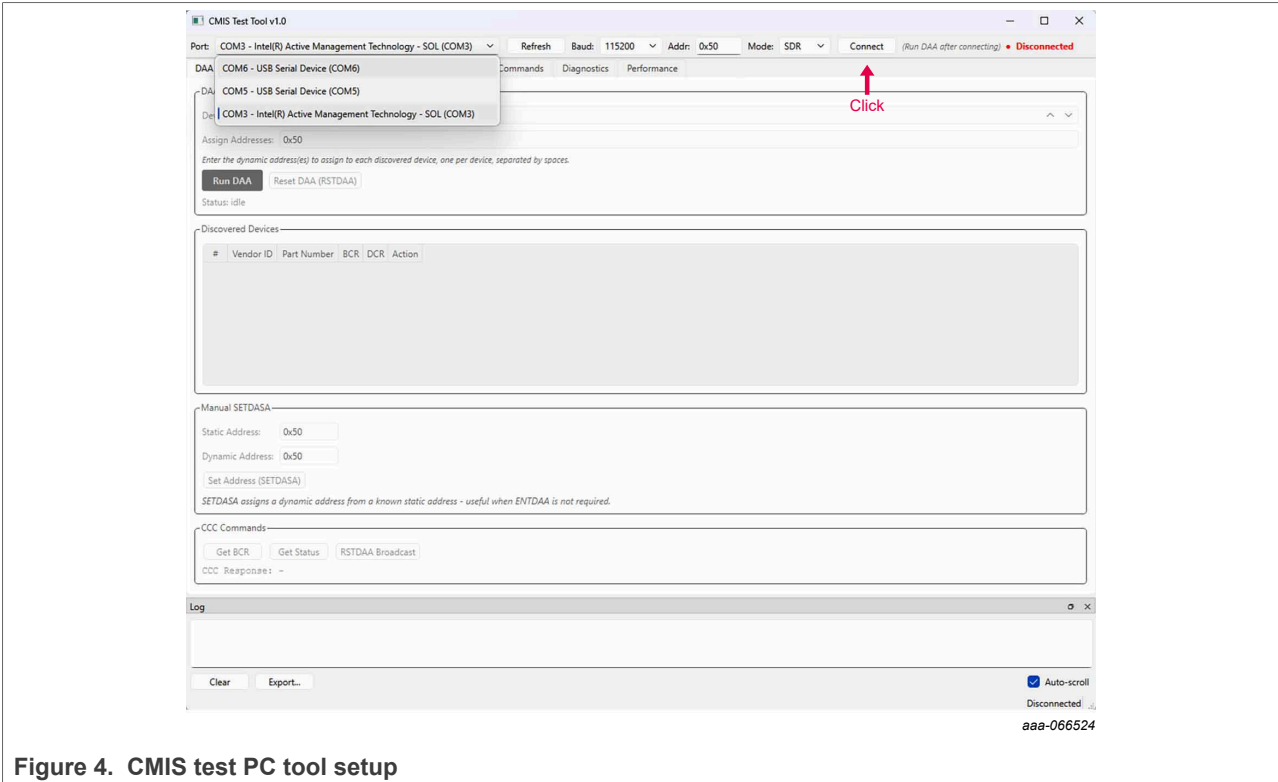

Figure 4. CMIS test PC tool setup
3. Connect the FRDM-MCXN236 USB port (J11) to the PC. The PC counts two USB-CDC COM ports with consecutive COM numbers. Run the `cmis_test_tool.exe` tool from the `mcxn947_optical_module_cmis_over_i3c_demo\scripts` directory. On the test system, the PC counts two `usb-bridge-i3c demo` COM ports (COM5 and COM6), as shown in Figure 4. Select the second COM port (COM6) and click **Connect**.